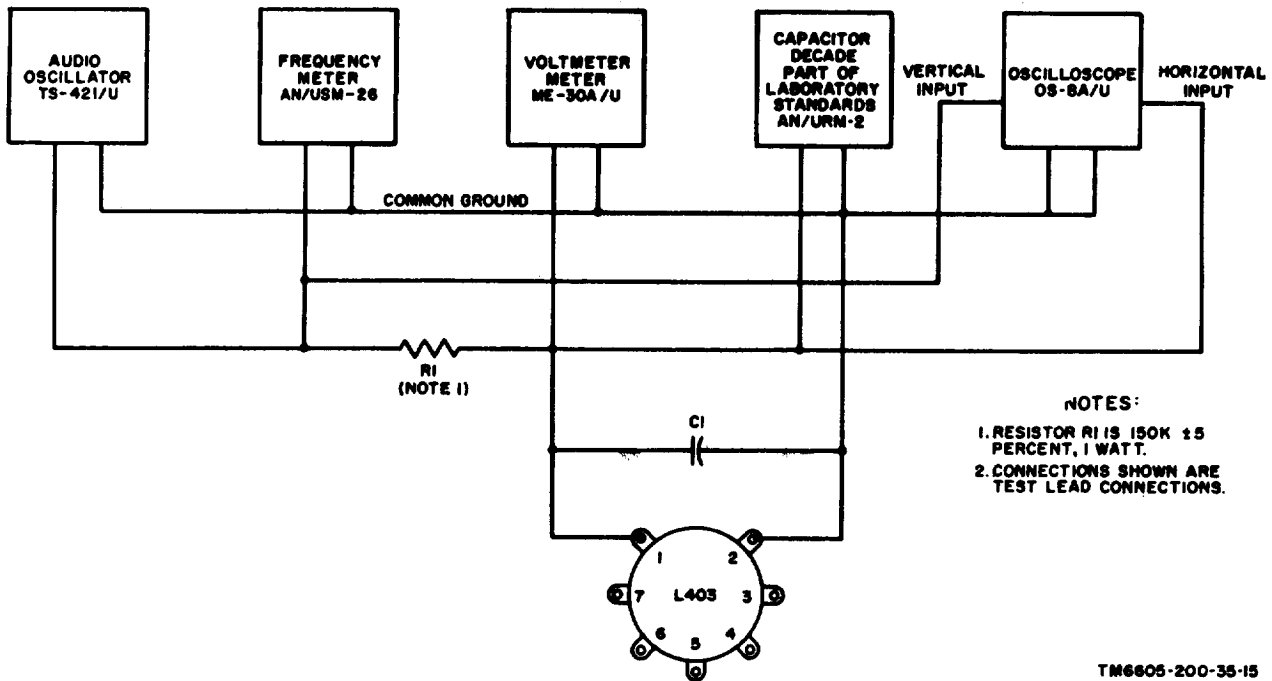

Figure 22. Test setup for tuning 800-cps reference voltage circuit.
*b.* Connect inductor L403 and capacitor C1 as shown in figure 22.